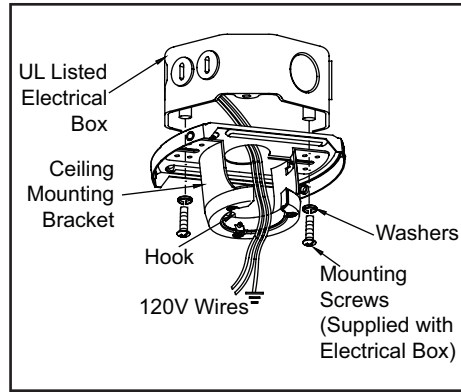

Figure 11
1. Pass the 120-volt supply wires through the center hole in the ceiling mounting bracket as shown in Figure 11.
2. Install the ceiling mounting bracket on the electrical box by using the mounting screws provided with the electrical box. Note that the flat side of the mounting bracket is toward the electrical box. (Figure 11)